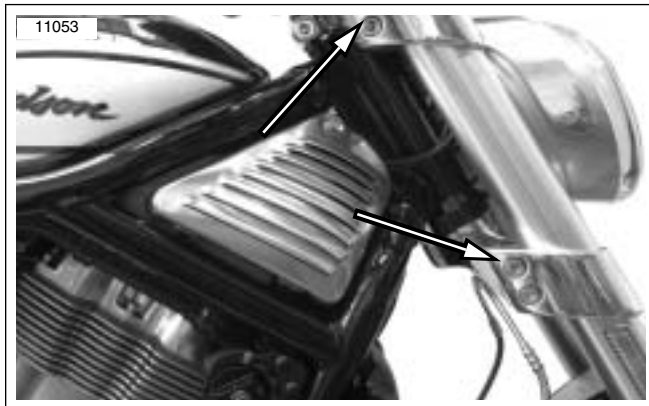

Figure 2-114. Fork Clamp Fasteners
6. See Figure 2-114. Remove upper and lower fork clamp pinch bolts.